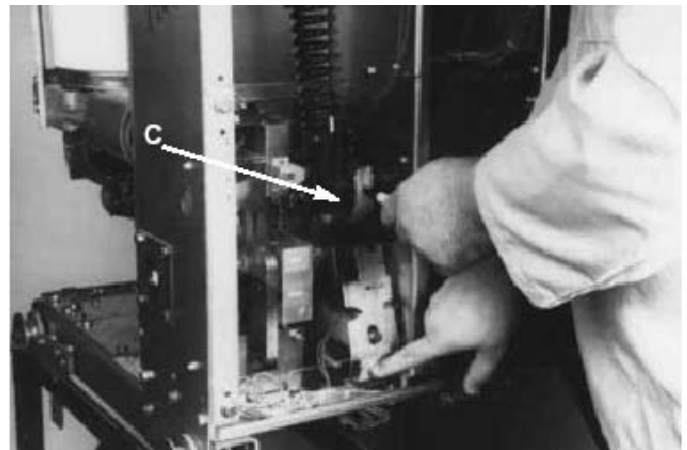

Figure 6-12 Manually Closing Circuit Breaker with Marker in Hole "C".
General Information: The CloSure™ Test can be performed on the VCP-W, VCP-WR, VCPW-ND, DHP-VR, W-VACR, and W-VAC lines of vacuum circuit breakers. Refer to Table 6.4 a for list of circuit breakers. If the CloSure™ travel obtained is as specified, the mechanism performance is satisfactory. If the CloSure™ travel does not conform as shown in Figure 6-12, contact Eaton for further information. (See Step 13).
Step 8 - While holding the marker tip on the tape, close the breaker (Figure 6-12).